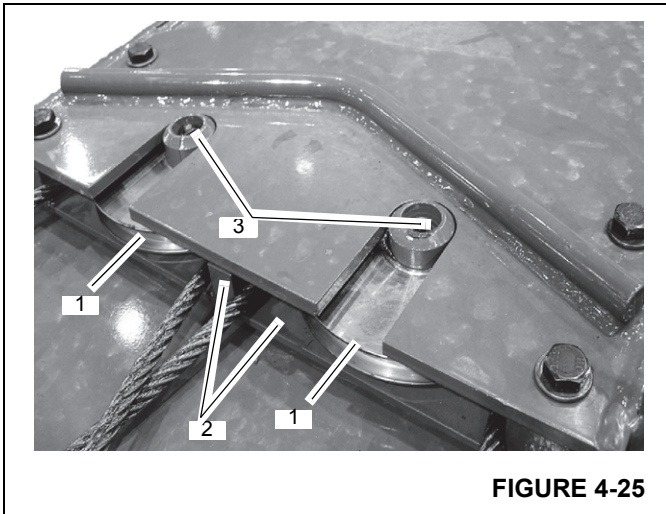

FIGURE 4-25
4. Install two extend synchronizing cable sheaves (1) on the shafts of the sheave mount weld (2). Install a grease fitting (3) in each shaft. Lay this assembly on top front of outer mid section (Figure 4-25).